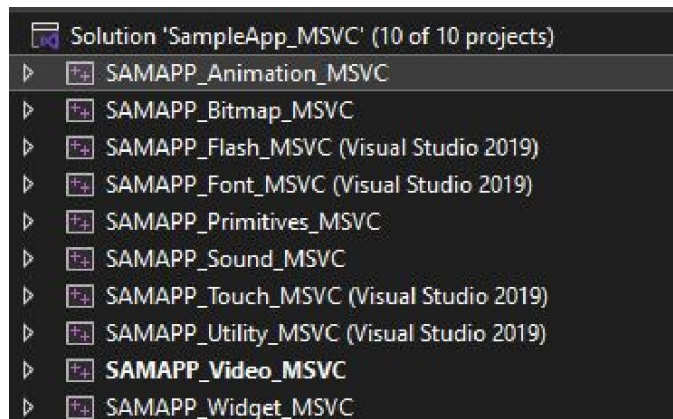

Figure 17 - Available Sample Applications
1. Choose your preferred sample application (refer to Figure 17).